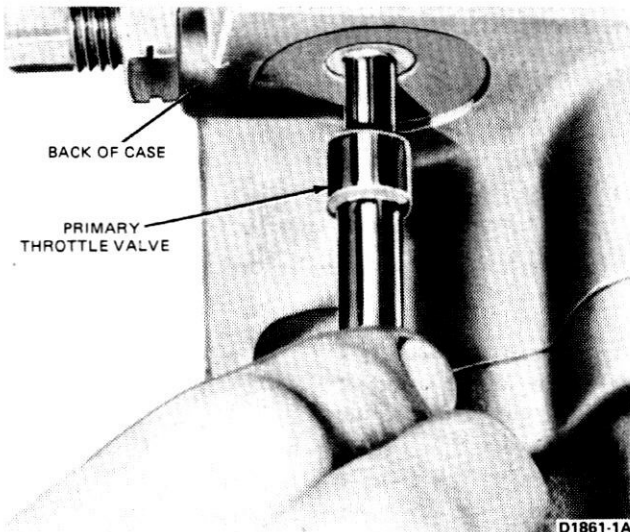

FIG. 14 Removing or Installing Primary Throttle Valve
3. Remove the primary throttle valve (Fig. 14) from the opening at the rear of the case.